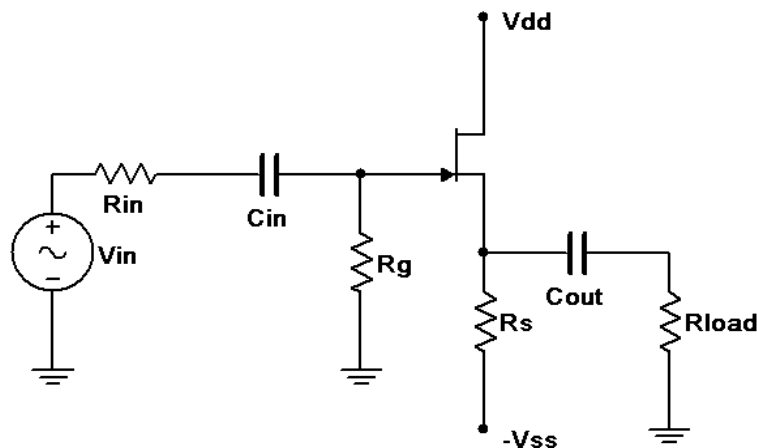

Figure 2
5. Consider the circuit of Figure 2 using $V_{dd} = 15$ volts, $V_{ss} = -3$ volts, $R_{in} = 33\text{ k}\Omega$, $R_g = 330\text{ k}\Omega$, $R_s = 4.7\text{ k}\Omega$, $R_{load} = 22\text{ k}\Omega$, $C_{in} = 10\text{ }\mu\text{F}$ and $C_{out} = 470\text{ }\mu\text{F}$. Assuming $V_{GS} = -2$ volts and $g_m = 2\text{ mS}$ (4 mS if using the J112), determine the theoretical gain and input impedance of the circuit and record in Table 2.
6. Build the circuit of Figure 2 using $V_{dd} = 15$ volts, $V_{ss} = -3$ volts, $R_{in} = 33\text{ k}\Omega$, $R_g = 330\text{ k}\Omega$, $R_s = 4.7\text{ k}\Omega$, $R_{load} = 22\text{ k}\Omega$, $C_{in} = 10\text{ }\mu\text{F}$ and $C_{out} = 470\text{ }\mu\text{F}$. Set V_{in} to a 100 mV peak sine at 1 kHz. Measure the voltages at the gate and load, and record these in Table 2. Capture images of the input and gate voltages, and the gate and load voltages. Note whether or not the load is inverted compared to the gate signal.